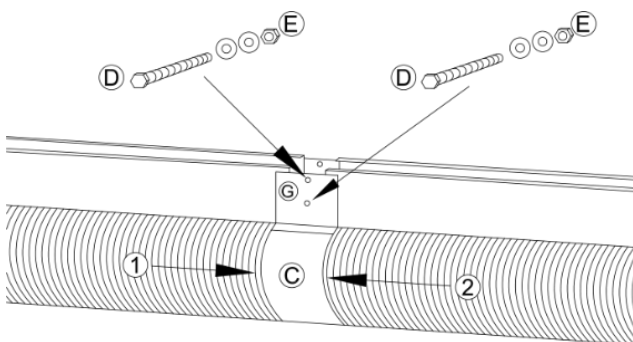
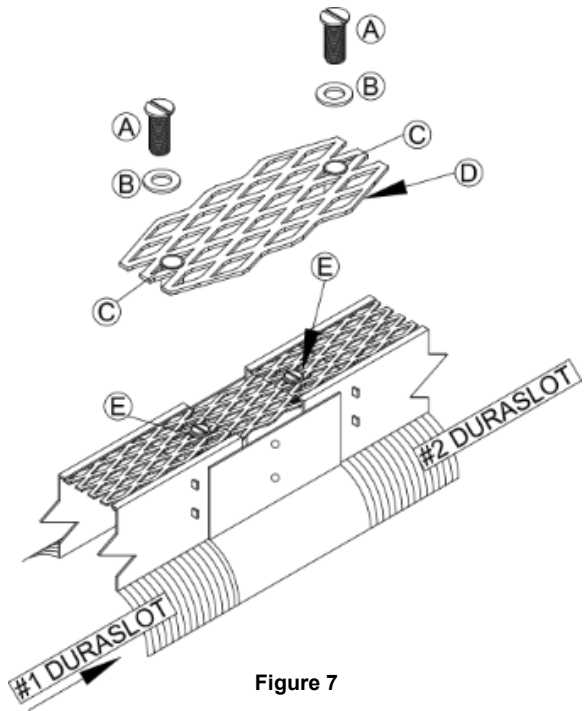
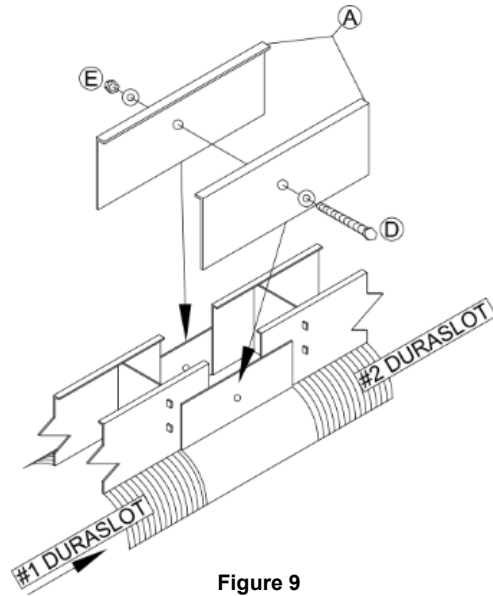

Figure 6
Figure 7
Figure 9
- (Figure 6) Put the first section of Duraslot pipe (1) into the excavated trench.
- Wrap coupler band (C) around the end of the Duraslot pipe (1) leaving the bolt holes (G) in the metal past the end of the pipe's slot.
- (Figure 7) Slide grate connector (D) under the grate on Duraslot pipe (1).
- Screw the first pan head screw (A) with washer (B) through hole (C) into the grate at point (E).
- (Figure 6) Position the next piece of Duraslot pipe (2) so that the grate connector (D) slides under grate.
- Insert hex head screws (D) with washers on both sides through the holes (G) in the coupler band (C) and tighten the hex head nut (E). Be careful not to overtighten.
- (Figure 7) Screw the second pan head screw (A) with washer (B) through hole (C) into the grate at point (E).
1. Refer to (Figure 6) Put the first section of Duraslot pipe (1) into the excavated trench.
2. Wrap the coupler band (C) around end of the Duraslot pipe (1) leaving the bolt holes (G) in metal past the end of the pipe's slot.
3. Position the next piece of Duraslot pipe (2) into the coupler band.
4. Insert hex head screw (D) with washers on both sides through the bottom hole (G) in the coupler band (C) and tighten hex head nut (E).
5. (Figure 9) Set band flanges (A) over the joint.
6. Insert hex head screw (B) with washers on both sides through the top hole and tighten the hex head nut (C).